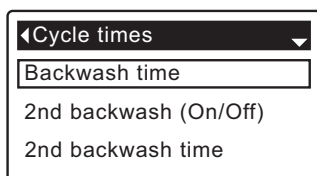

FIG. 68
5. Press the SELECT (O) button to display the Cycle times menu (See Figure 68).
9. Press the SELECT (O) button. The display will go back to the Cycle times menu (Figure 68).